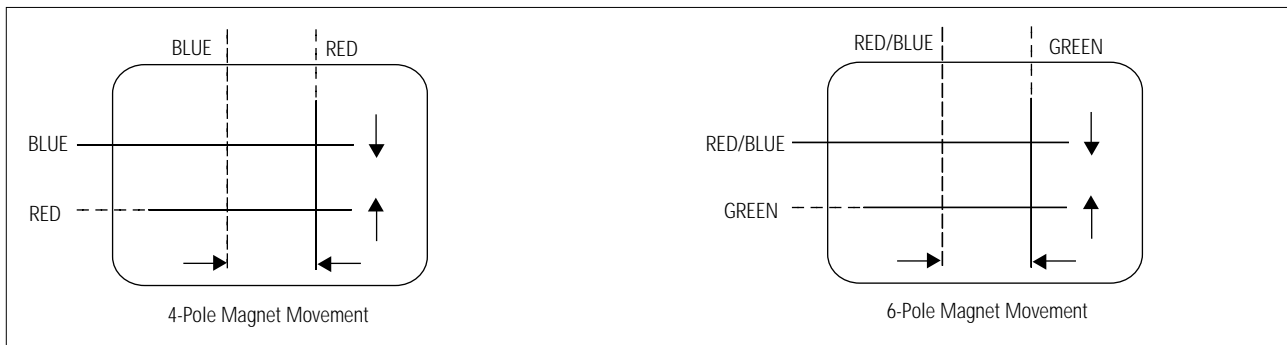

Fig. 4-5 Center Convergence Adjustment
8. Since the 4-pole magnets and 6-pole magnets interact, the dot movement is complex (Fig. 4-5).